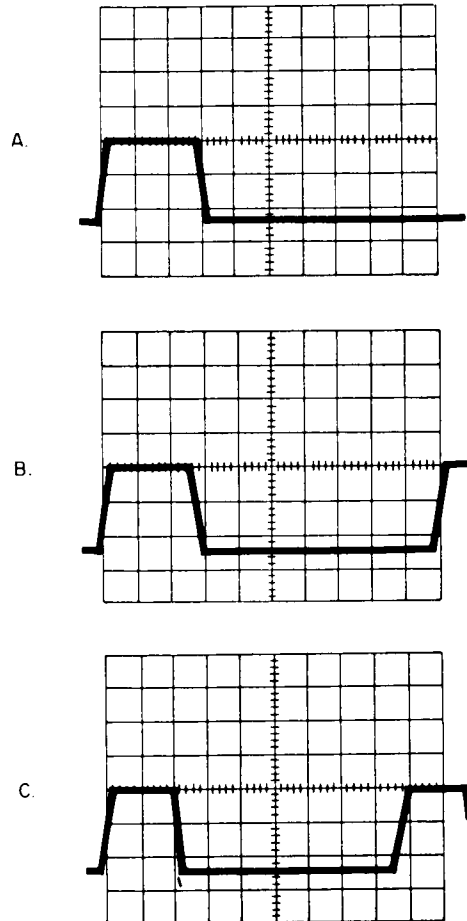

Figure 14. Clock Frequency Variation
1. Set the scope as indicated in Figure 14. Display the output of the ± 0 hub, located on the CE console with the machine in static condition. The output should appear as shown in Figure 14A.
- a. Rather than replace the basic block oscillator, observe the +U RO Time 000-030 pulse at 01A5 B14N, with the scope set as indicated in Figure 14.